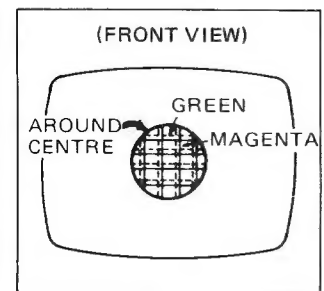

Fig. B-6
4. Rotate the rear pair of tabs (six pole convergence magnets) as a unit to minimize the separation of the magenta (R/B) and green lines. (Fig. B-6)